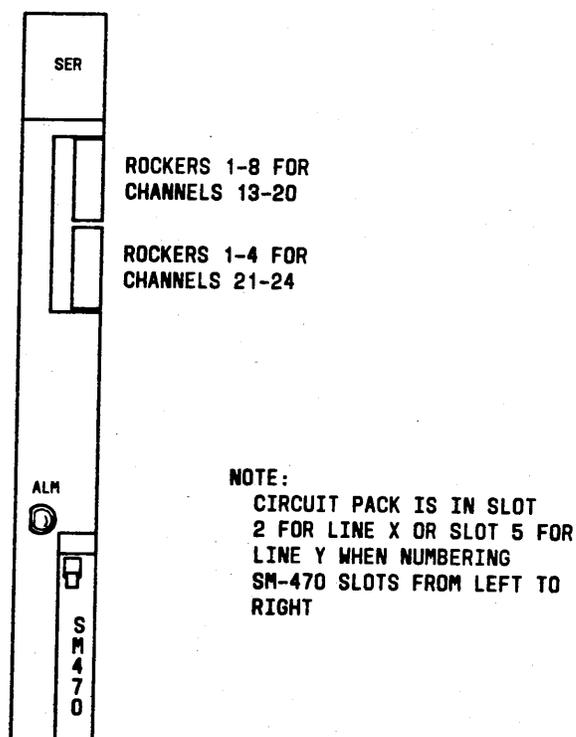

Fig. 17—16-MS Tail for Channels 13 Through 24
- To provide echo canceling for channels 13 through 24, specify circuit pack SM470 be installed in slot 2 for line x or slot 5 for line y. Figure 17 shows which rockers apply to which channels.